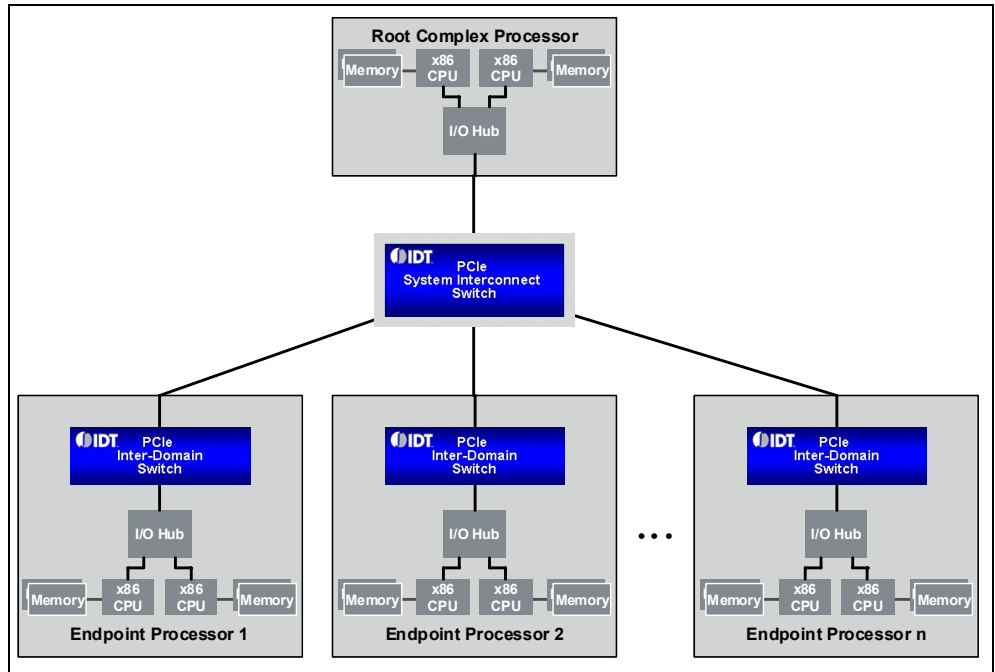

Figure 3 IDT System Interconnect Topology
The IDT System Interconnect Topology^[1] shown in Figure 3 consists of a single x86 based Root Complex Processor (RP) connected to one or more intelligent x86 based Endpoint Processors (EP) via an IDT System Interconnect PCIe switch. An IDT Inter-Domain switch is utilized by each EP to connect them to the downstream ports of the System Interconnect PCIe switch. This topology in conjunction with the IDT System Interconnect Software^[2] allows high speed data transfer between any two peers in the system.